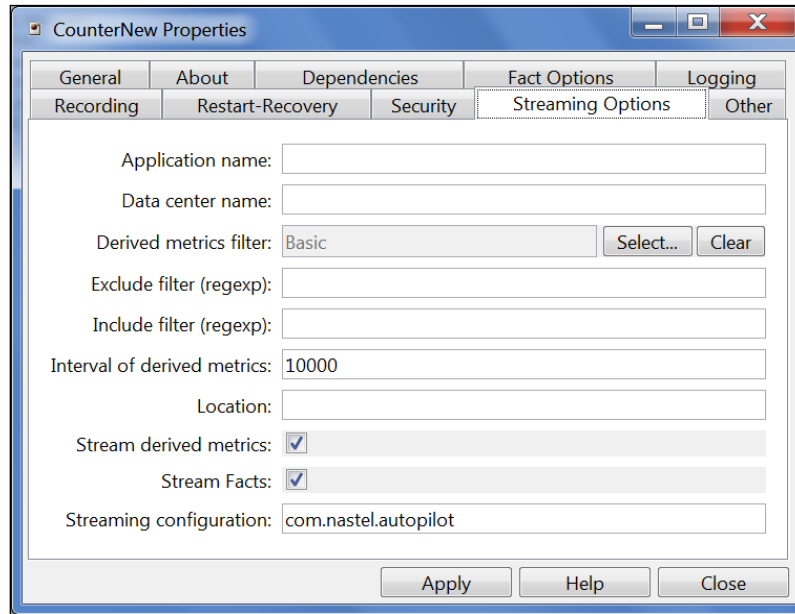
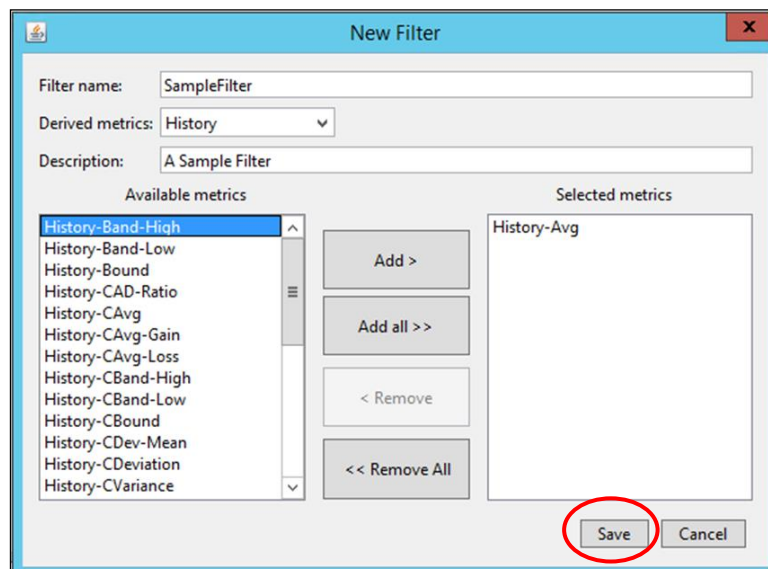

Figure 4-136. Streaming Options
Figure 4-138. New Filter
1. After clicking the **Select** button from the **Streaming Options** tab (Figure 4-136), the *Filters* dialog box is displayed. Click the plus sign icon to display the *New Filter* dialog box (Figure 4-138).